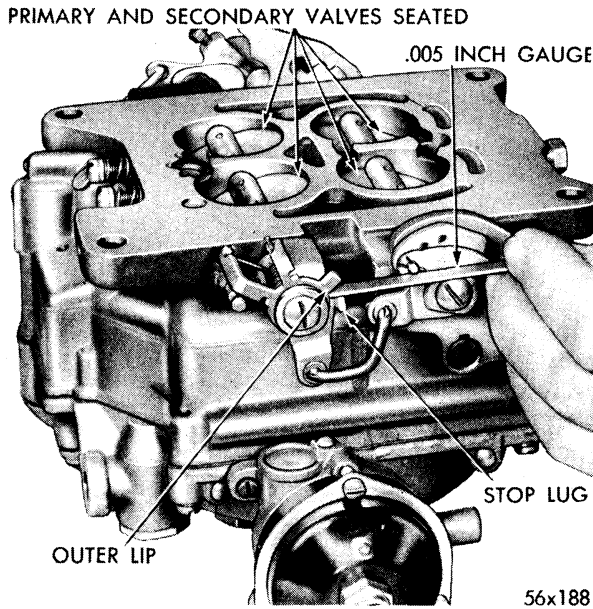

Fig. 93—Checking Opening of Secondary Throttle Valves (Step 3)
- (3) Close primary and secondary throttle valves tightly. It should be possible to insert gauge, Tool T-109-237, (.005 inch) between outer lip of secondary operating lever and stop lug on primary shaft dog, as shown in Figure 93.